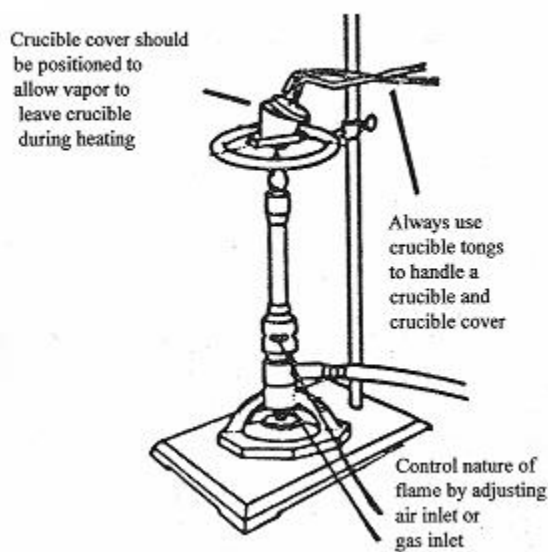

Figure 5 Apparatus for determination of empirical formula.
2. Weigh the crucible and cover on an analytical balance. Record the mass to the nearest 0.0001 g on the Data Sheet (2).
3. Place an iron ring on a support. Place a clay triangle on the ring. Allow sufficient height to place a burner beneath the ring as shown in Figure 5.
- Place the covered crucible on the triangle as shown in Figure 5. Remove the crucible cover with crucible tongs and place the cover on a piece of wire gauze on the laboratory bench.